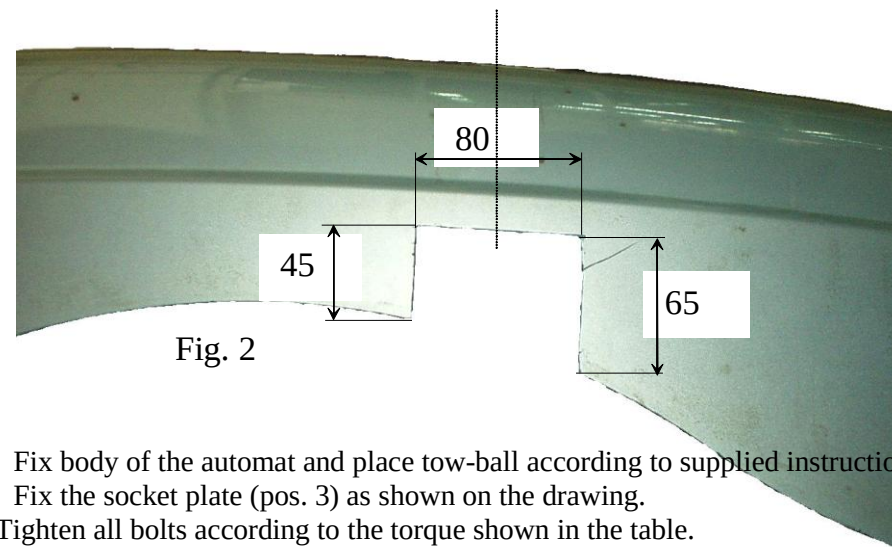

Fig. 2
3. To uncovered holes put special nuts „Caget nut” (pos.12).
4. Put mian bar of the towbar in this way, so towbar's holes agree with caget nut, fix by M10x35mm bolts (pos. 8) as shown on the drawing (loosely).
5. Fix side brackets pos. 4, 5 and flat bar pos. 6 .
6. Cut the bumper according to the fig. 2 and then reassemble it.